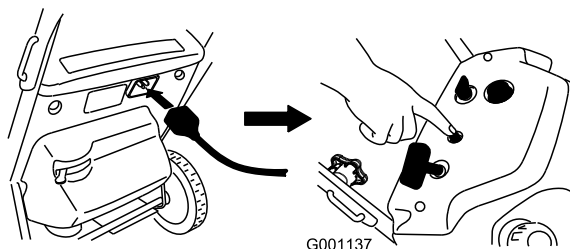
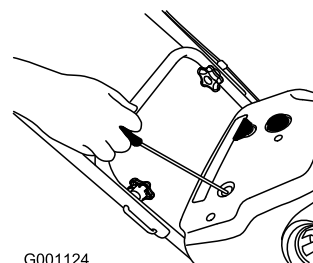

Figure 16
Figure 17
- Start the engine using either the electric-start button (Figure 16) or the recoil starter (Figure 17).